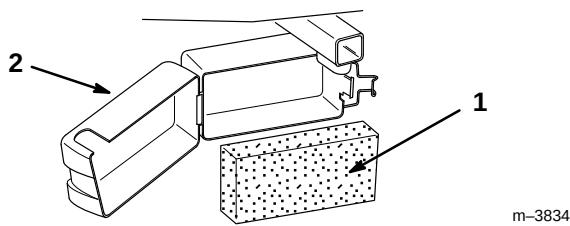

Figure 15
1. Snap the air filter cover latch open and swing it to the side (Fig. 15).